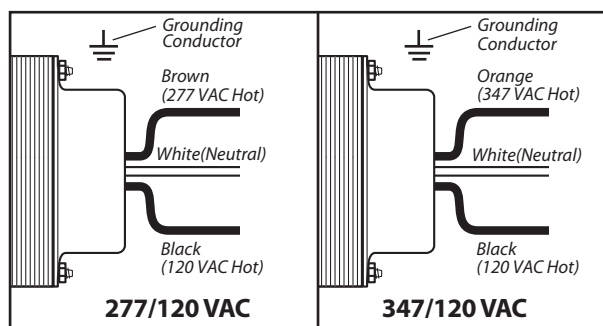

Figure 2.1 – transformer wiring details
2.2.1 Wire Control Transformer Pull a dedicated 120VAC, 277VAC, or 347VAC circuit to the panel for the control transformer. See figure 2.1 for termination details. Cap the unused lead to prevent electrical shock.
- ☐ Verify power to controller and output boards from the secondary of the transformer. The voltage should be 24-28VAC from red wire to red wire, 12 – 16VAC yellow wire to each red wire. See figure 2.1 for details.